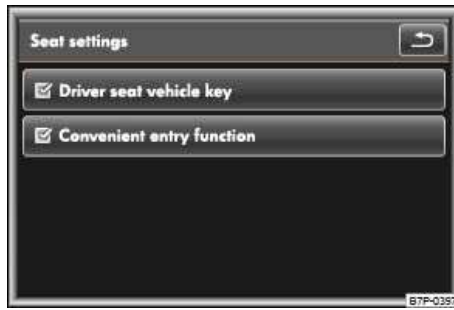

Fig. 56 Infotainment system: Menu seat settings for the driver seat with memory feature.
- Check the check box by the **Driver seat remote control key** ☒ function key ⇒ fig. 56.